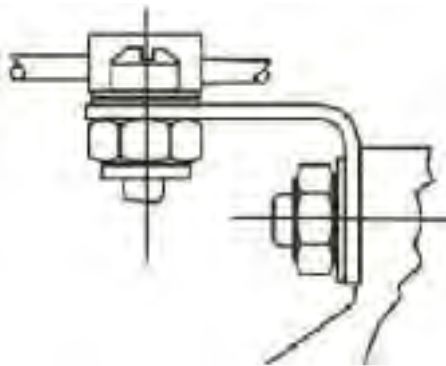

Figure 6
- (2) Make a sketch to identify clamps that attach to brackets for reference on assembly.
- (3) Remove the P-clamps (Figure 5) from L-shape clamp (Figure 6) or engine attachment point.
- (4) Remove the P-clamps from the fuel line.
- (5) Disconnect the fuel hose from the fitting on each end.
- (6) Remove the fuel hose. (Keep the fuel fittings if they are not part of the fuel hose.)